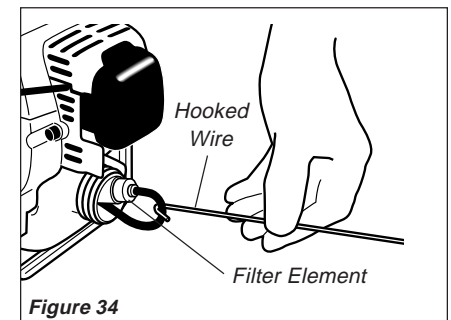

Figure 34
- Use a hooked wire to extract the fuel filter from inside the fuel tank (Figure 34). Inspect the fuel filter element for signs of contamination. Replace it with a new one if required. Before reinstalling the filter, inspect the fuel line. If you find damage or deterioration, remove the unit from service until it can be inspected by a Shindaiwa-trained service technician.